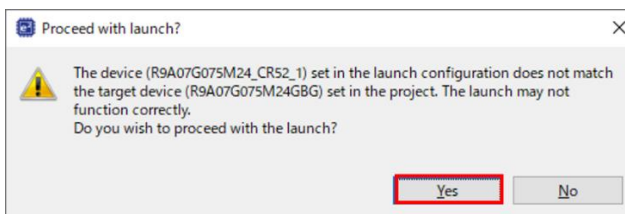

Figure 46 Warning Window of Device Name
4. When Figure 46 is shown, please click **Yes** to proceed the launch.